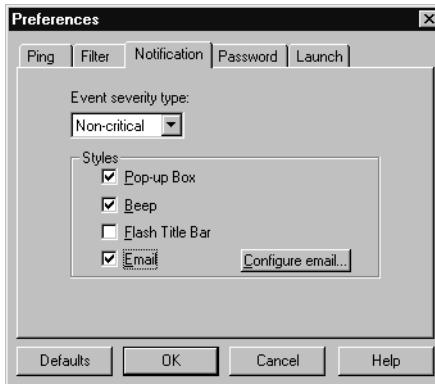

Figure 3-5. Event Notification Dialog Box
- 2 Click the **Notification** tab; the Notification dialog box appears, as shown in Figure 3-5.
- 3 Click the **Notification** tab to change the way in which you are alerted of event notifications received from all systems. The Notifications dialog box appears, as shown in Figure 3-5 on page 3-12. Select one or more of the available options.